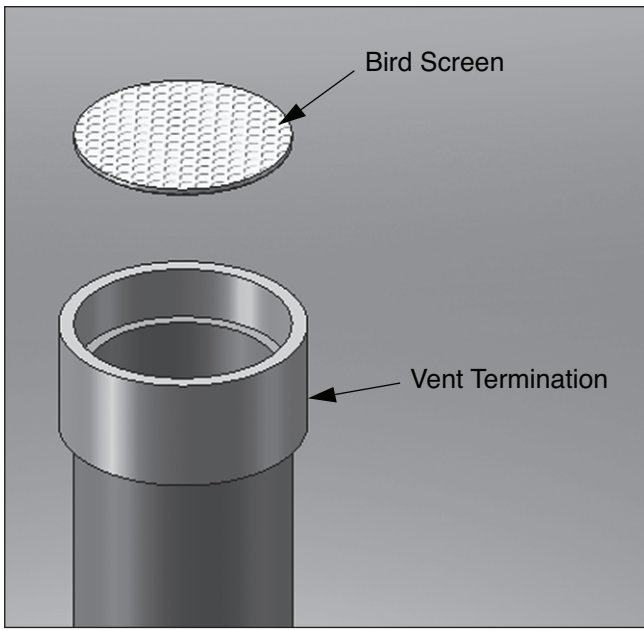
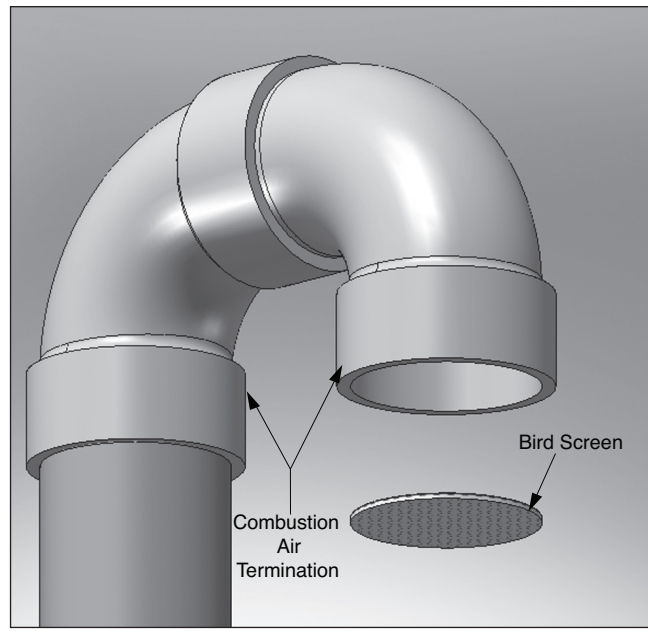
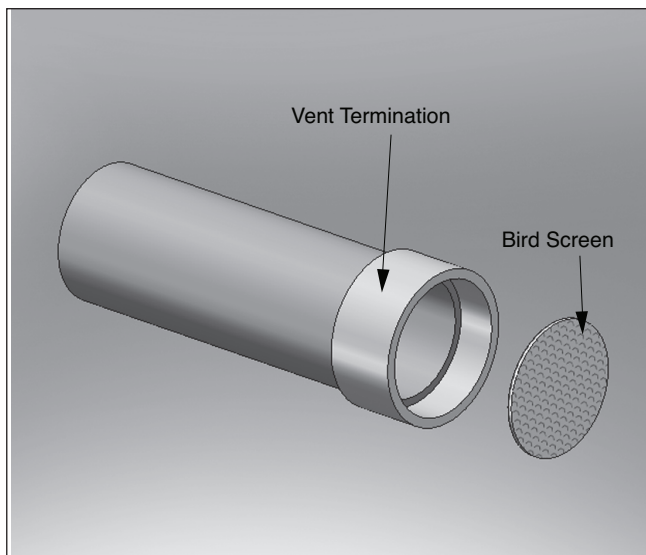
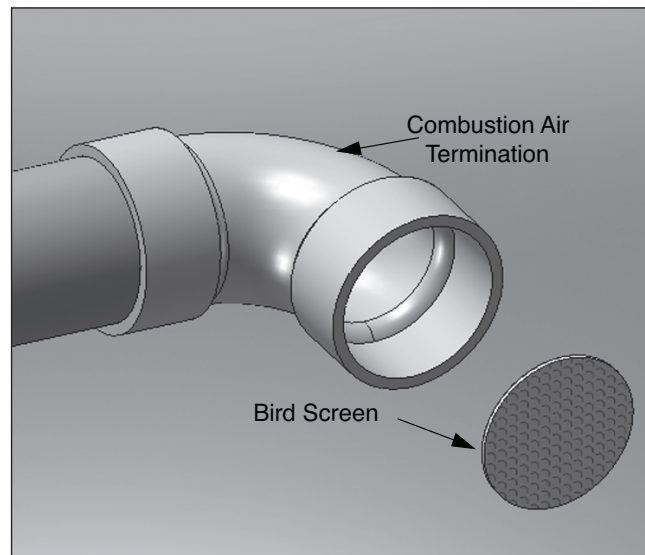

Fig. 3 - Vertical Vent Bird Screen Installation
Fig. 4 - Vertical Combustion Air Bird Screen Installation
Fig. 9 - Sidewall Vent Bird Screen Installation
Fig. 10 - Sidewall Combustion Air Bird Screen Installation
1. The vent and combustion air terminations must include a factory supplied "bird screen" installed as shown in *Fig. 3* and *Fig. 4 on page 14*
1. The vent and combustion air terminations must include a factory supplied "bird screen" installed as shown in **Fig. 9** and **Fig. 10 on page 18**.
1. The vent and combustion air terminations must include a factory supplied "bird screen" installed as shown in *Fig. 3 on page 14* & *Fig. 10 on page 18*.